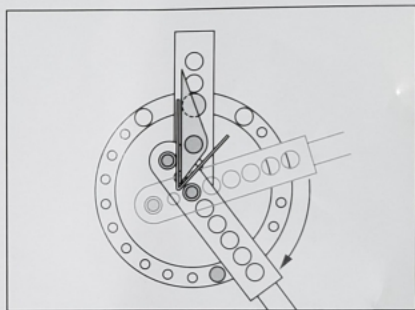

Figure 7. Basic angle bend.
4. To limit the bending range, install the fixed stop in the appropriate hole in the outer ring of the bending bracket, as shown in **Figure 7**.
5. With a stable footing, bend the workpiece by pulling the handle towards you, as shown in **Figure 7**.